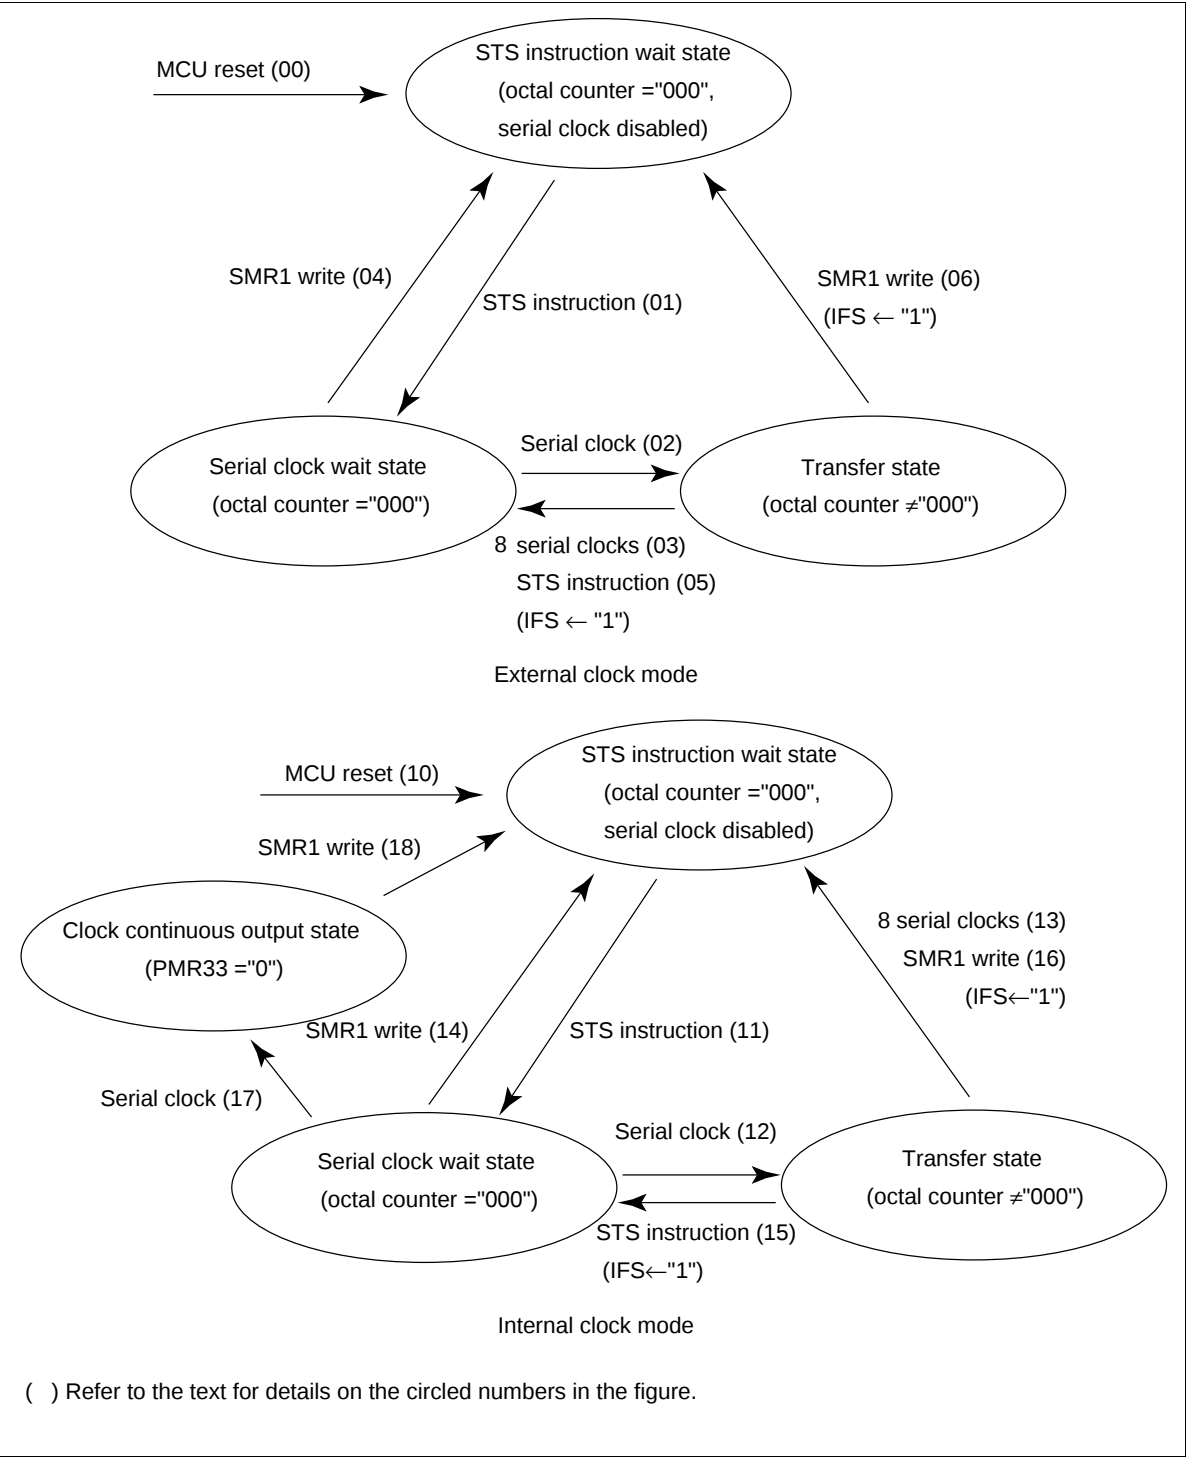

Figure 63 Serial Interface Operating States
The serial interface has the operating states shown in figure 63 in external clock mode and internal clock mode.
Upon MCU reset ((00), (10) in figure 63), the serial interface enters the STS instruction wait state. In the STS instruction wait state, the internal state of the serial interface is initialized. Even if the serial clock is input at this time, the serial interface will not operate. When the STS instruction is executed ((01), (11)), the serial interface enters the serial clock wait state.